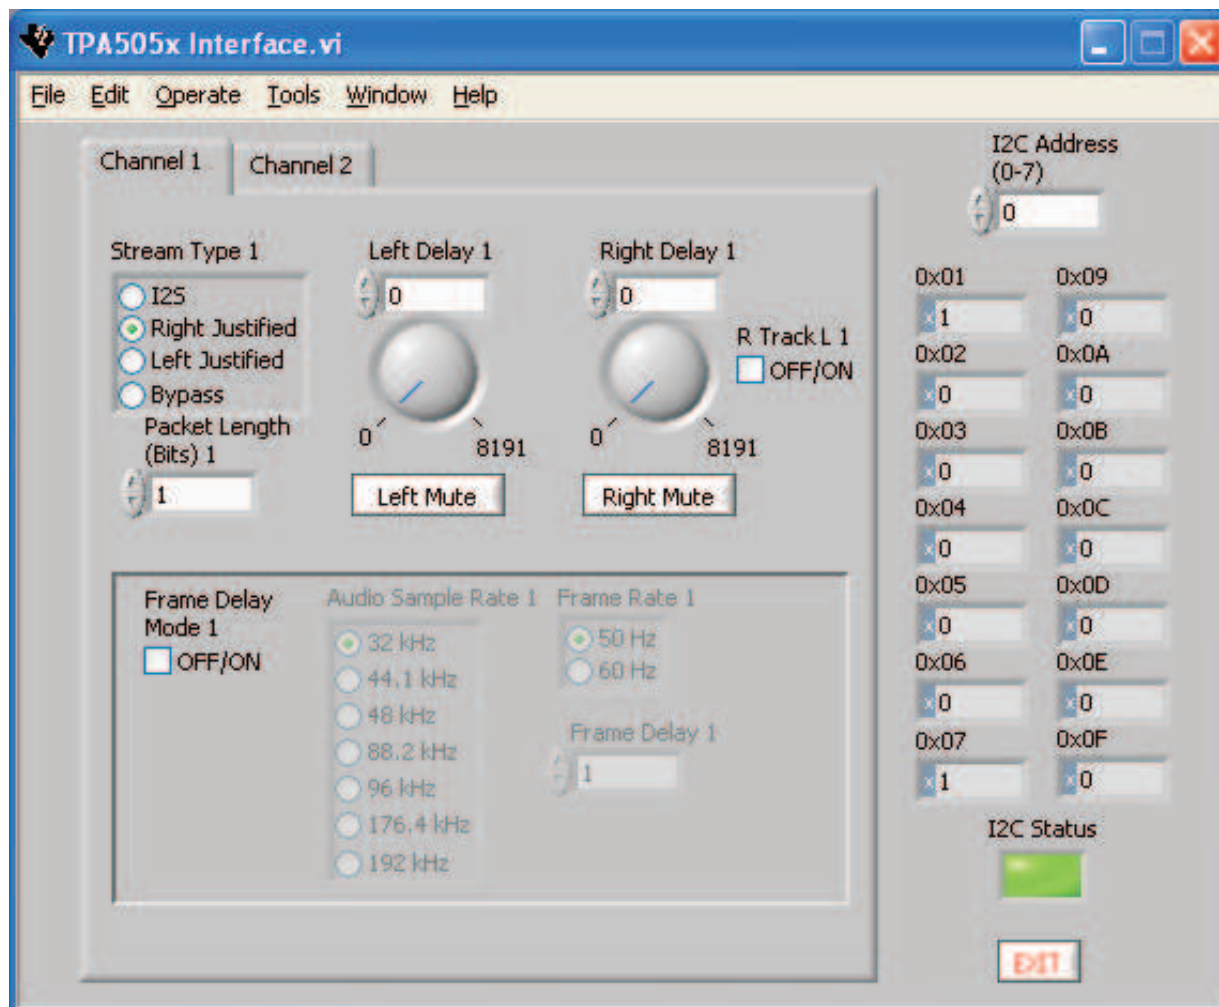

Figure 3. TPA5051 in Right-Justified Mode
- Clicking on the Right Justified mode under *Stream Type* brings up a hidden window, called *Packet Length*. Through this, the number of packet lengths to be delayed can be entered (see Figure 3).